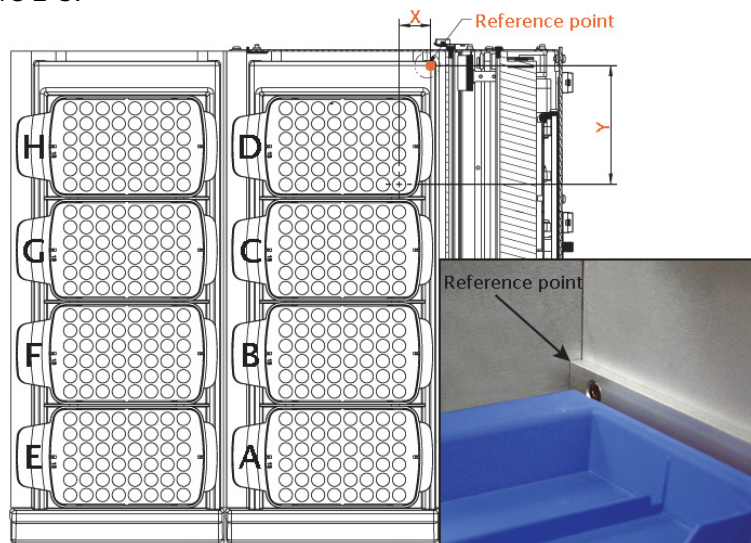

Figure 2-5. X- and Y-Coordinates for Rack Position D
- The number of columns and rows of vessels in a rack. For example, the racks in Figure 2-5 have six (6) rows and eight (8) columns each.
- The x- and y-coordinates for the first vessel position of each rack on the collection area; see Figure 2-5.